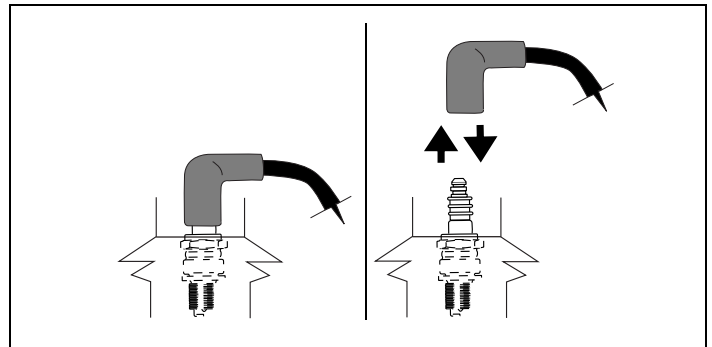

Figure 43. Disconnecting/Connecting Spark Plug
13. Carefully disconnect spark plug wire from grounding post, if provided. See Figure 43. See "G. Avoid Accidental Starts" instructions on page 2. Afterward, continue reading instructions below.